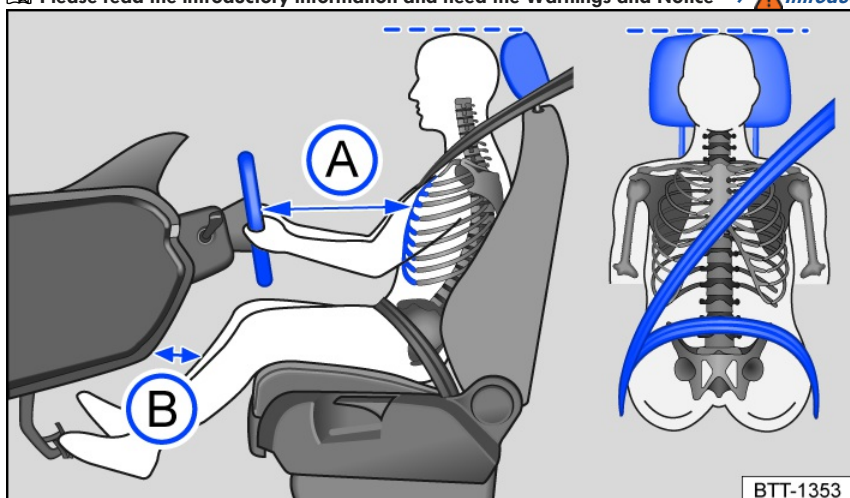

Fig. 19 General example: correct distance between the driver and the steering wheel, correct safety belt routing and correct head restraint adjustment.
- Adjust the head restraint so that the upper edge of the head restraint is in line with the upper portion of the head as much as possible, but not lower than eye level. Position the back of the head as close as possible to the head restraint *fig. 19*.
- Adjust the steering wheel so that the distance between the steering wheel and your chest is at least 25 cm (around 10 inches) fig. 19 and you can hold the steering wheel firmly at the sides with both hands and your elbows slightly bent.
- Adjust the forward/back position of the driver seat so that you can press the pedals while your legs are slightly bent and there is at least 10 cm (around 4 inches) of space between the instrument panel and your knees fig. 19.